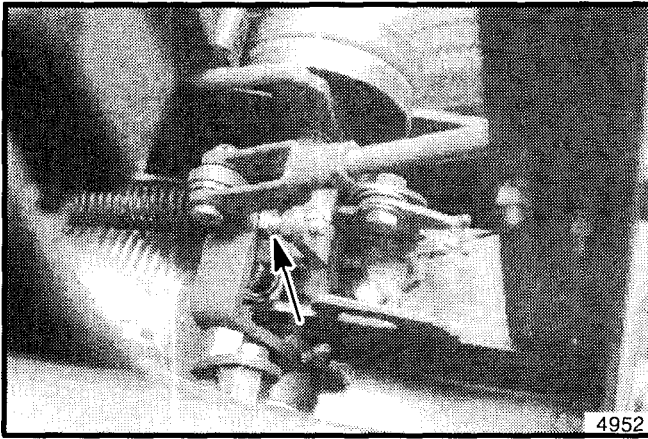

Figure 25. Belt Stop Tension Adjustment Screw
23. Belt stop tension on the reel belts can be adjusted by loosening the screw in the reel belt idler assembly and screwing it in or out to adjust the tension on the idler arm when it is in the disengaged position (see figure 25).